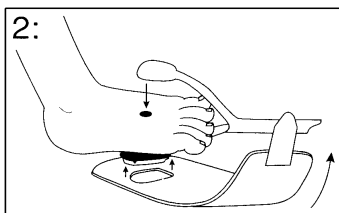

Fig. 45 Orientation of emitter and detector
2. Orient emitter window on top of foot directly opposite the detector. Wrap the sponge wrap around the foot with the white detector fitting into the pre-punched opening on the foam wrap. Be careful to maintain proper alignment of the detector and emitter windows and attach the 'Velcro' strap to secure (Fig. 45)! Check position of sensor to verify correct positioning and re-position if necessary. Complete coverage of the detector window is needed to ensure accurate data (Fig. 46).